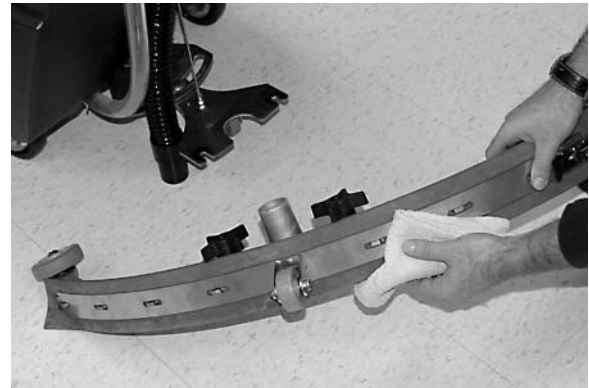

FIG. 36
4. Wipe blades down with a dry cloth and store squeegee in the up position to prevent squeegee damage (Figure 36). Check squeegee blades for damage and wear. Rotate or replace blades when worn or damaged.